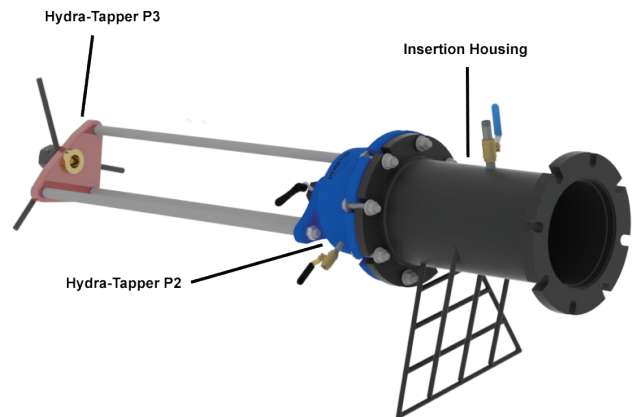

FIGURE 45
3.0.4) Tip and lay the insertion housing and Hydra-Tapper/P20 Assembly on its stand (see Figure 45).